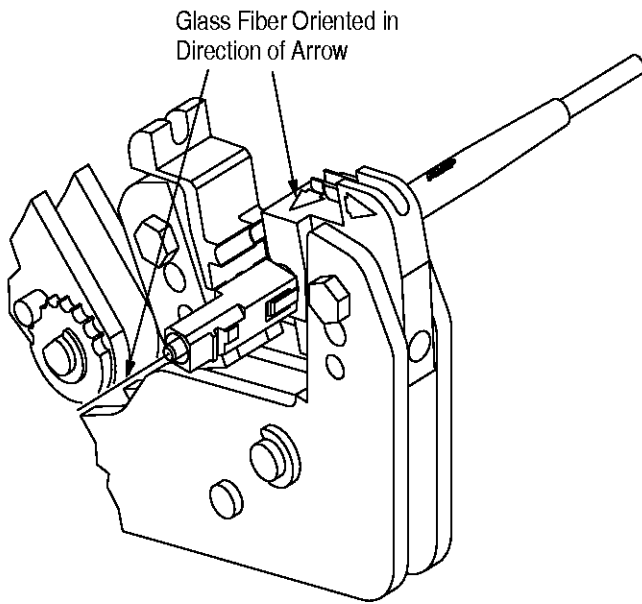

Figure 10
8. Insert crimp eyelet and plug assembly into the dies as shown in Figure 10. The plug assembly is properly oriented if the glass fiber is positioned in the same direction as the arrow located on the recessed area of the die set. See Figure 10.